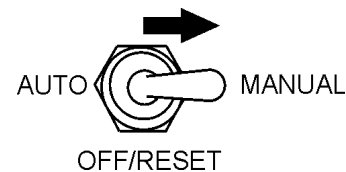

Figure 42. MPEC Control Switch (Manual Position)
3. Once the engine glow plugs have been warmed, place the **MPEC Control Switch** in the **MANUAL** position to start the engine (Figure 42).